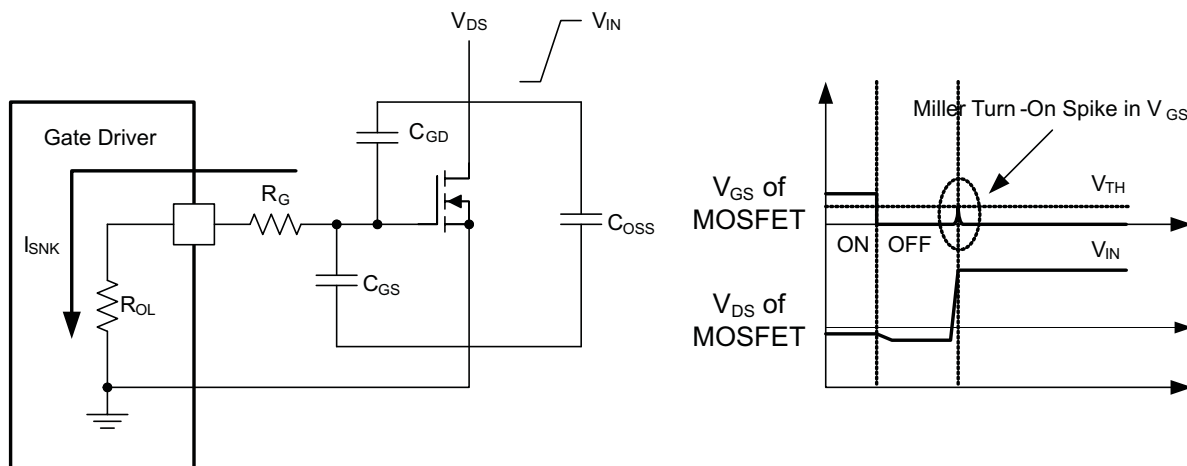

FIG 40. Low Pull-Down Impedance in UCC2753x (Output Stage Mitigates Miller Turn-On Effect)
An example of a situation where Miller turnon is a concern is synchronous rectification (SR). In SR application, the dV/dt occurs on MOSFET drain when the MOSFET is already held in OFF state by the gate driver. The current charging the C_{GD} Miller capacitance during this high dV/dt is shunted by the pull-down stage of the driver. If the pull-down impedance is not low enough then a voltage spike can result in the V_{GS} of the MOSFET, which can result in spurious turnon. This phenomenon is illustrated in FIG 40.